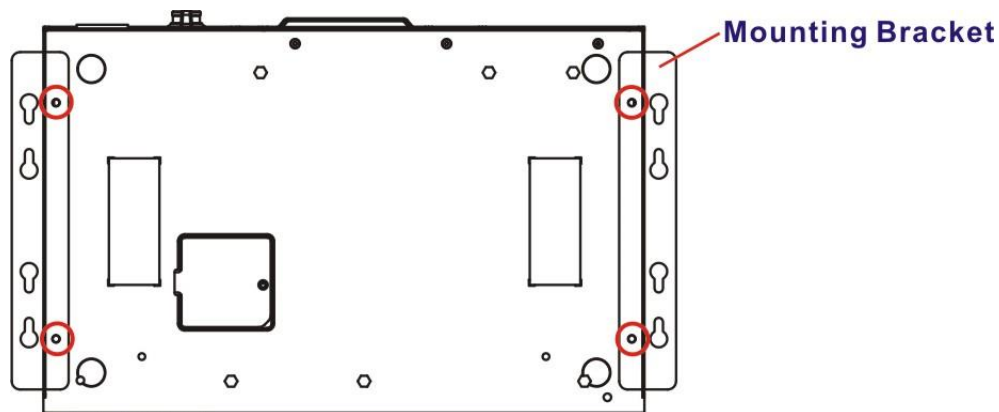

Figure 3-15: Mounting Bracket Retention Screws
Step 3: Secure the brackets to the system by inserting two retention screws (M4*6) into each bracket (**Figure 3-15**).